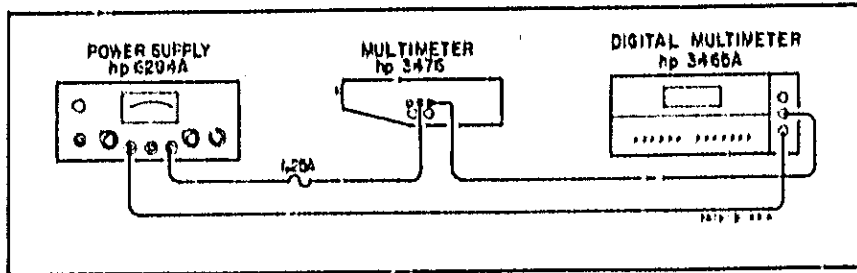

Figure 5-1. DC Ammeter Accuracy Test.
- Connect the equipment as shown in Figure 5-1.